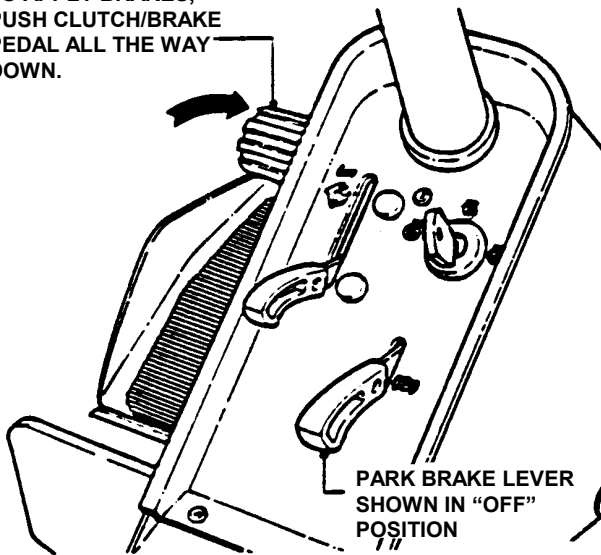

FIGURE 2.17
2. Release park brake by pushing down on the clutch/brake pedal to release park brake lever. See Figure 2.17.